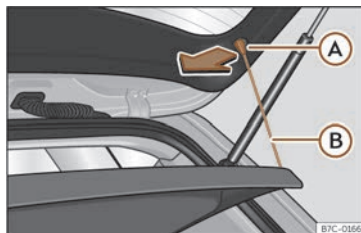

Fig. 113 In the luggage compartment: removing and fitting the shelf.
- Detach the cord loops >>> **Fig. 113** (B) from their hooks (A).
- Hook the loops >>> **Fig. 113** (B) to the rear lid.